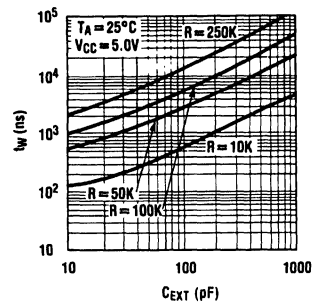

FIGURE 1
- The pulse width is essentially determined by external timing components R_X and C_X . For $C_X < 1000\text{ pF}$ see *Figure 1*; design curves on T_W as function of timing components value. For $C_X \gg 1000\text{ pF}$ the output is defined as: